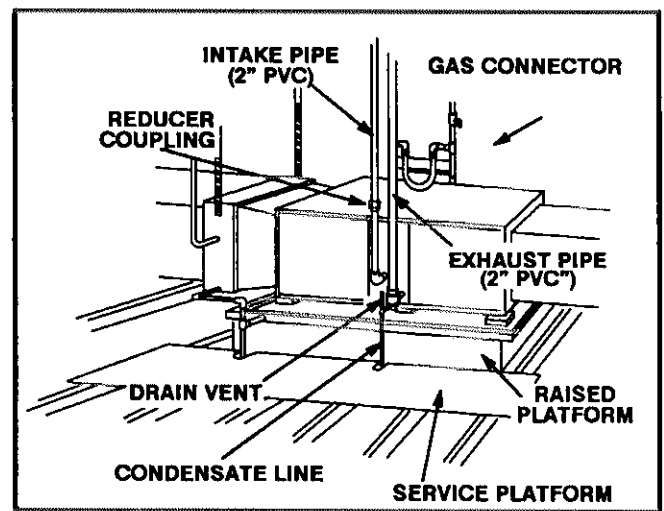

FIGURE 11
- 3- Set unit in drain pan, using six isomode pads (provided) as shown in figure 11. Unit must be level to ensure proper coil drainage.